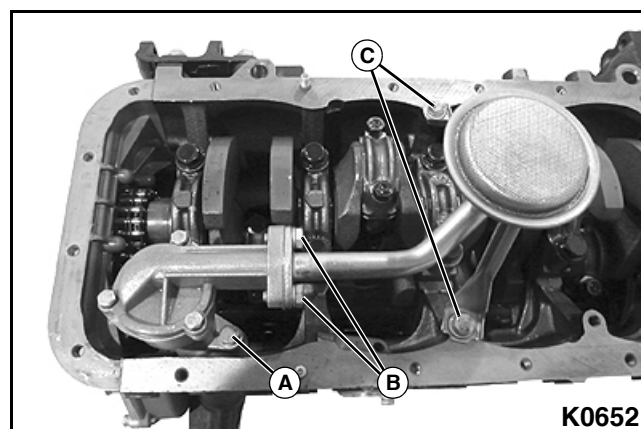

Figure 3-198
2. Install one bolt and flat washer securing the oil pump to the cylinder block (A). **See Figure 3-198.**
4. Install two bolts and lock washers securing the oil pump pick up tube at the suction side of the oil pump housing (B).
5. Install two bolts, lock washers, and flat washers securing the oil pump pick up tube to the cylinder block (C).